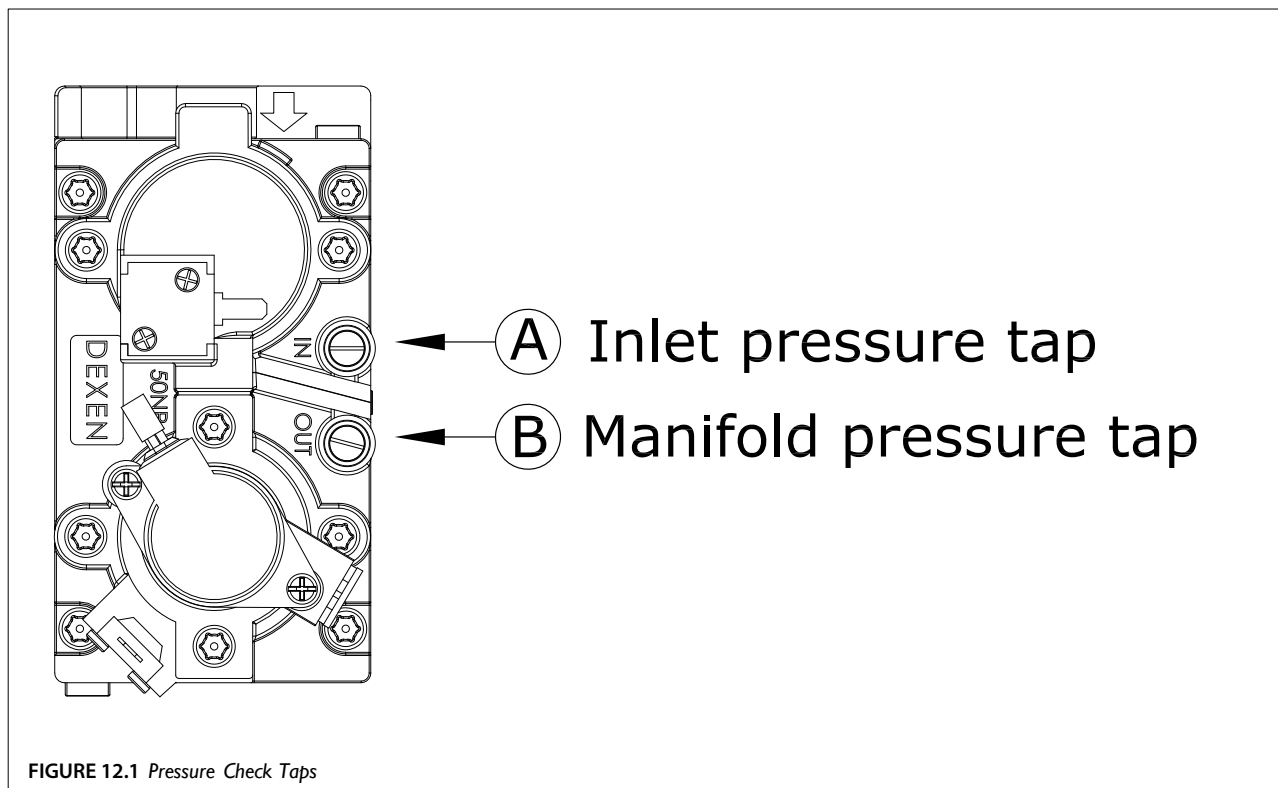

FIGURE 12.1 Pressure Check Taps
1. Loosen the inlet (IN) pressure tap by turning screw counter-clockwise. See (A) in FIGURE 12.1.
5. Disconnect hose and tighten the inlet (IN) pressure tap by turning screw clockwise. Screw should be snug. Do not over tighten.
6. Relight pilot and burner. Then reattach manometer to the inlet pressure tap (A) to verify the tap is completely sealed. Manometer should read no pressure.
2. Loosen manifold (OUT) pressure tap by turning screw counter-clockwise. See (B) in FIGURE 12.1.
7. Attach the manometer to the manifold pressure tap (B) to verify it is completely sealed. The manometer should read no pressure when pilot and burner are on.